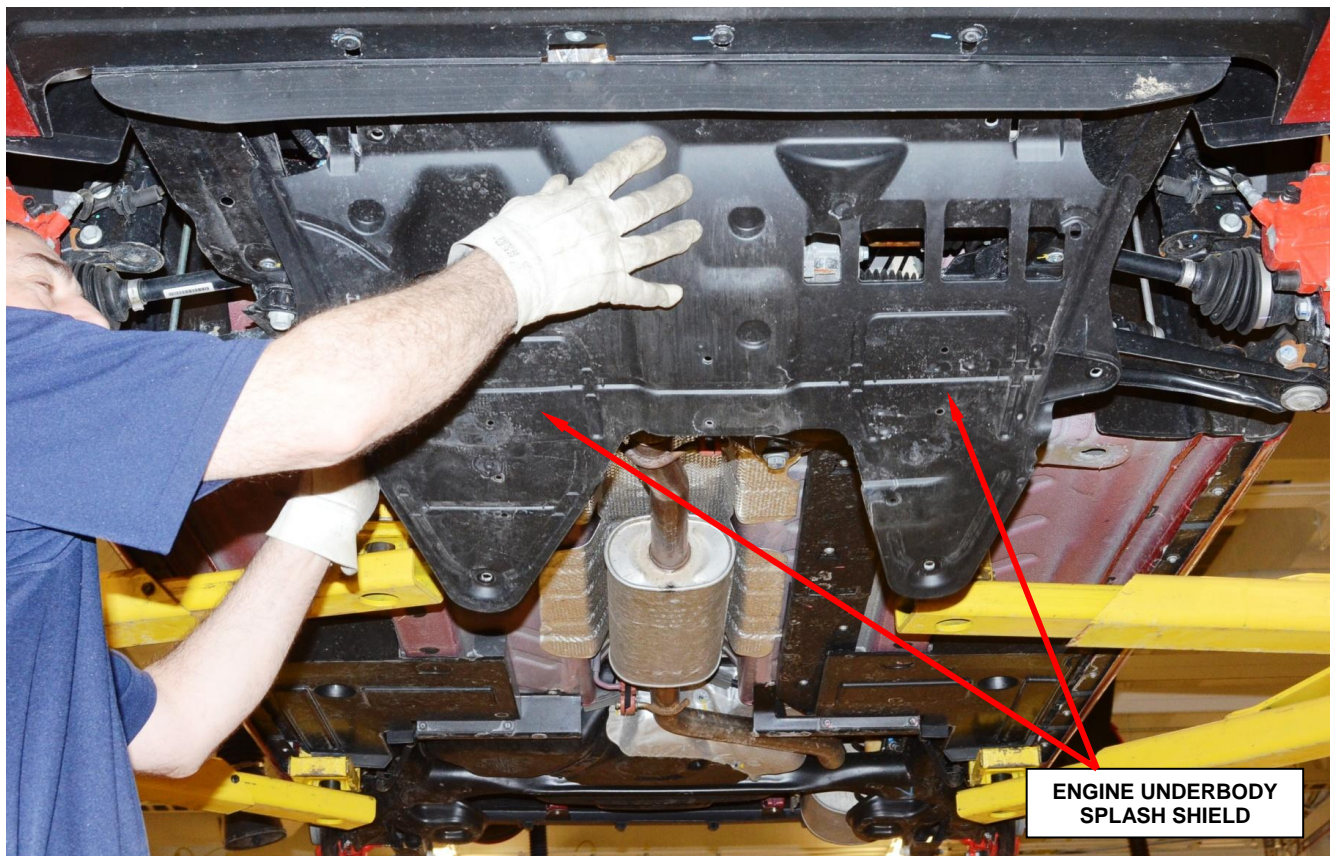

Figure 12 – Engine Underbody Splash Shield
74. Install the engine underbody splash shield (Figure 12).